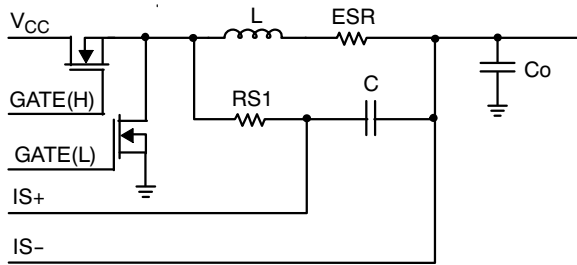

Figure 9. Inductor ESR Current Sensing
**Inductor ESR.** Another means of sensing current is to use the intrinsic resistance of the inductor. A model of an inductor (Figure 9) reveals that the windings of an inductor have an effective series resistance (ESR).
The advantages of setting the current limit by using the winding resistance of the inductor are that efficiency is maximized and heat generation is minimized. The tolerance of the inductor ESR must be factored into the design of the current limit. Finally, one or two more components are required for this approach than with resistor sensing. Note that, in the example of Figure 9, the  $IS+$  input bias current flowing through  $RS1$  will introduce a small offset error. If  $RS1 = 4 k\Omega$ , at the maximum bias current limit of  $1 \mu A$ , the error will be  $4 mV$ . This error can be avoided by using two separate resistors, each half the calculated value, as shown ( $R1$  through  $R4$ ) in the typical application circuit of Figure 1.